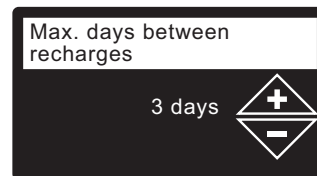

FIG. 28
13. **MAX. DAYS BETWEEN RECHARGES** (on all models except ECCWS central water filtration system). Press the UP (▲) or DOWN (▼) buttons to set the number of days between automatic recharges (See Figure 28). The feature can be set from 1 to 99 days.